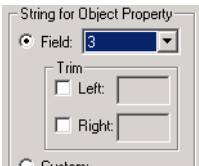

Figure 262. Property String Adjustments
3. Make Field 3 of the split Access Name (text right of the split character) the Property String. To do this, in the String for Object Property section, select **2** from the **Field** pull-down list, Figure 262. This specifies Field 2 (text right of split character in the Access Name) as the Object Property String.